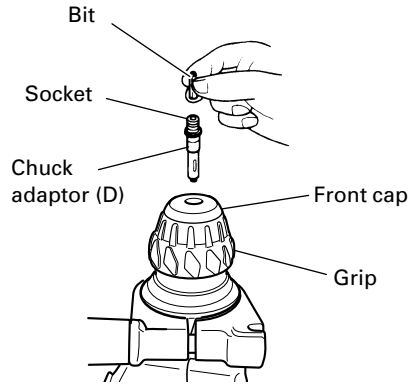

Fig. 8
4. When driving machine screws (Fig. 8)
- Do not attempt to use the rotary hammer in the rotation and hammering function with chuck adaptor (D) and bit attached.
5. When driving wood screws (Fig. 8)